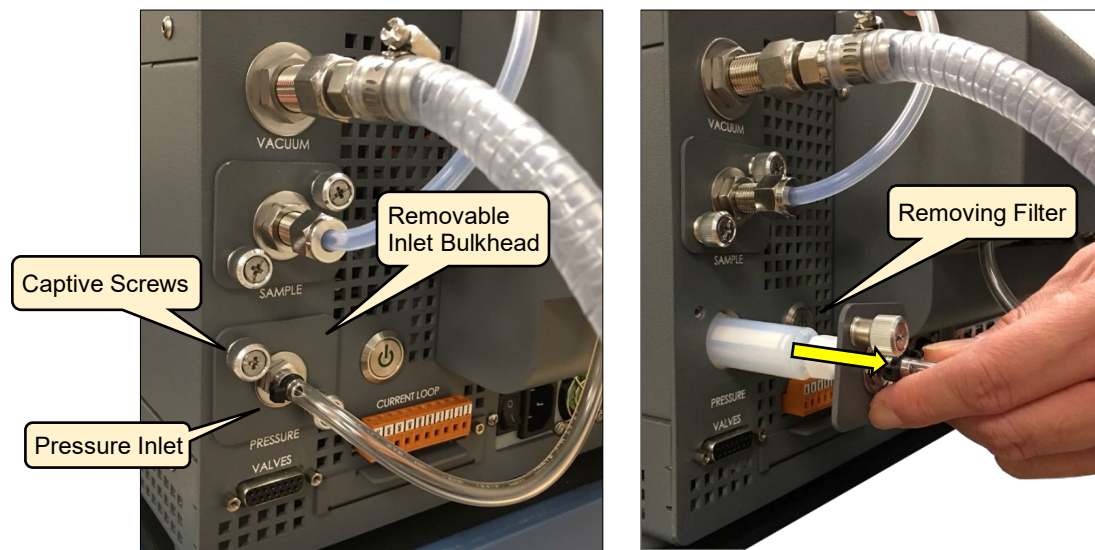

Figure 43: Pressure Inlet Port
3. Figure 43 shows the pressure inlet port filter assembly after removal. It is not necessary to remove the hose from the barbed inlet port.